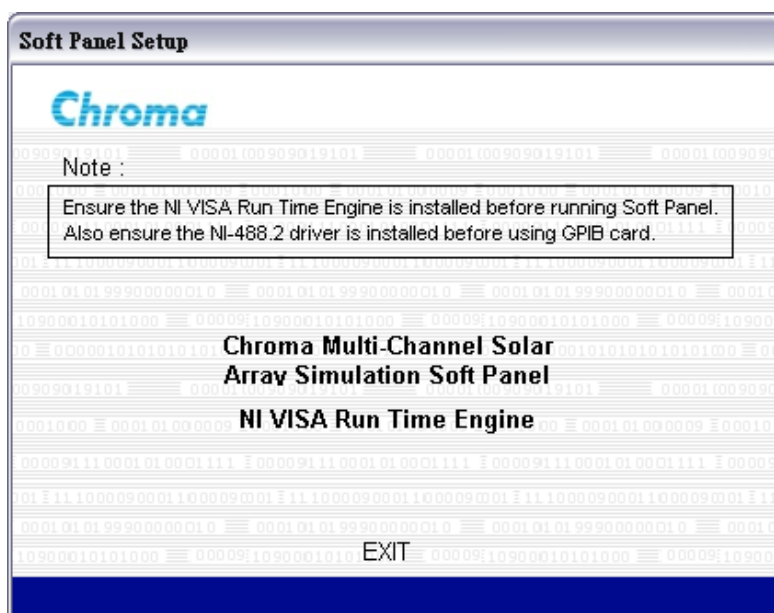
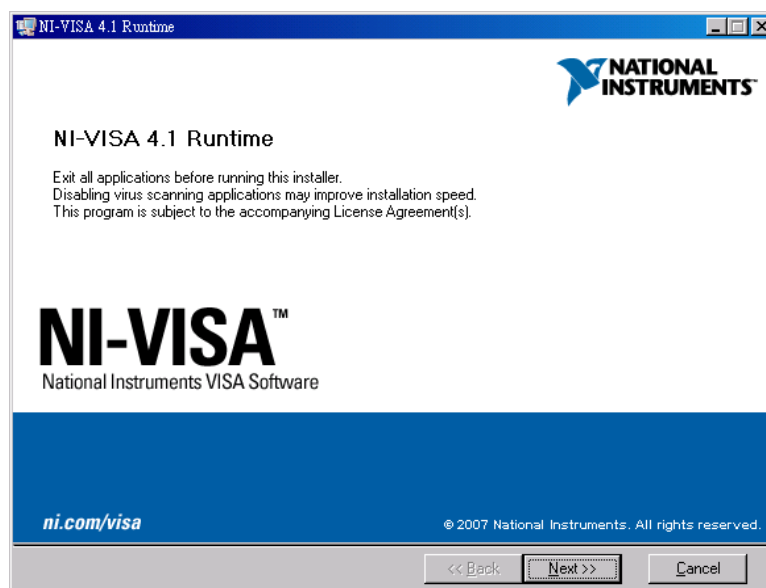

Figure 2-2 Soft Panel Installation Menu
Figure 2-6 Installing NI VISA 4.1 Version Driver
Place the CD into the CD drive and the `Setup.exe` file will run automatically. An installation menu will prompt as Figure 2-2 shows.
1. Install the NI VISA 4.1 version driver by double-clicking the **NI VISA Run Time Engine** appeared in Figure 2-2. When the program is initialized, it enters into the installation window as Figure 2-6 shows.